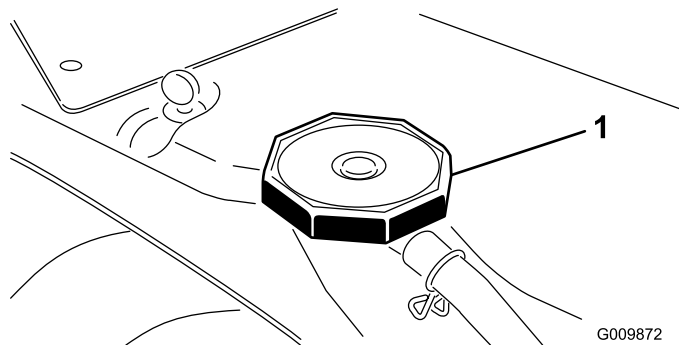

Figure 27
1. Carefully remove the radiator cap (Figure 27).